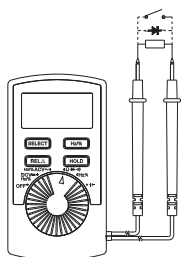

Figure 6
5. Testing Diodes and Continuity(See Dotted Part in Figure 6)